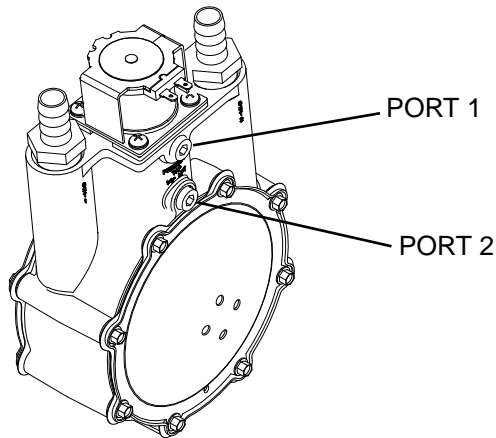
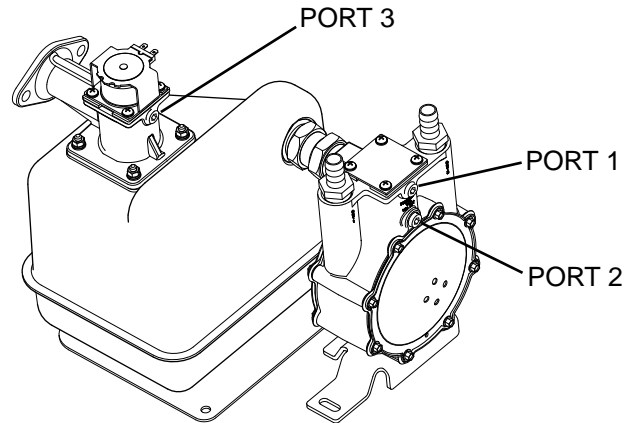

Figure 124. (8kW) Gas Pressure Test point
Figure 126. (12-20kW) Gas Pressure Test point
1. See Figures 124, 125 or 126 for the gas pressure test point on the fuel regulator. The fuel pressure can be checked at Port 1 on all fuel regulators, and at Port 3 on 12-20kW units.
1. Install a manometer to Port 2 on the fuel regulator. See Figure 124 or Figure 126.